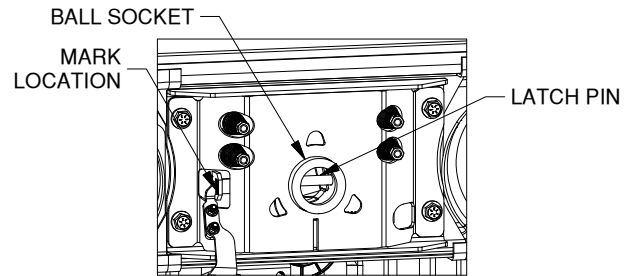

Figure G1: View under bed looking up at center section.
6. **Check latch pin engagement.** When installed properly, the latch pin should pass through both sides of the ball socket. With the ball removed, push handle toward the rear of the truck until the handle retracts and the latch pin engages. Visually inspect the ball socket and verify the latch pin has passed completely through both walls of the socket. Make a mark on the latching mechanism where indicated in Figure G1 to show where the latching mechanism should be when the pin is correctly positioned in the ball socket. Retract the pin, replace the ball, and re-engage the pin. Check the marked location on the latching mechanism. If the mark is in the same location as when the mark was made, then the latch pin has gone completely through the ball socket.